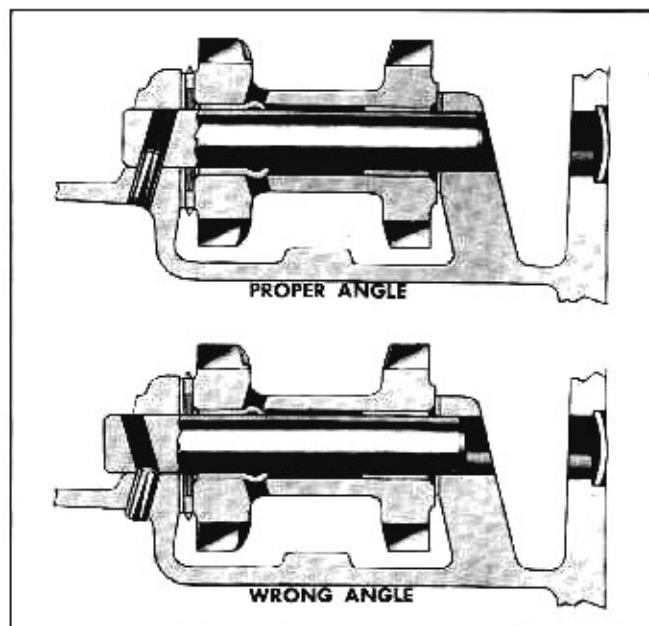

Fig. 7-39 Proper Lock Pin Installation
7. Install the reverse idler shaft from rear, making sure the lock pin hole in the shaft lines up with the hole in the case at the same angle (Fig. 7-39).